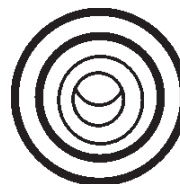

Figure 43. Pre-Heat Lamp
7. Verify that the **pre-heat lamp** (Figure 43) is lit. The lamp will turn off when the engine has started.